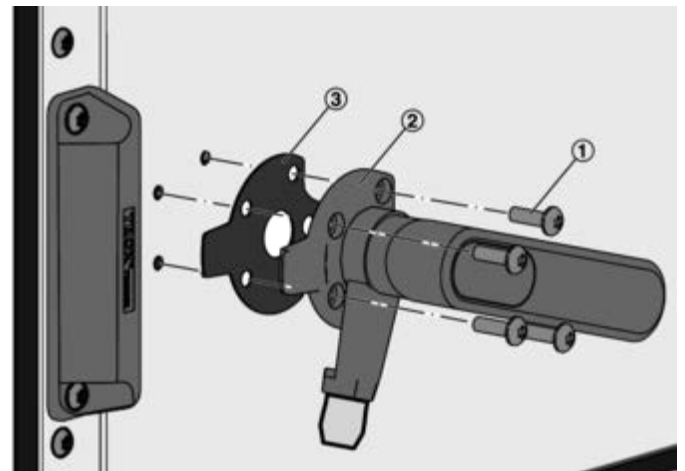

Fig. 42: Adjusting contact pressure of the inspection access door
- 8 ▶ Loosen screws (Fig. 42 /1) of the locking mechanism (Fig. 42 /2) and insert the compensating plate (Fig. 42 /3). Install by following these steps in reverse order and tighten the screws.